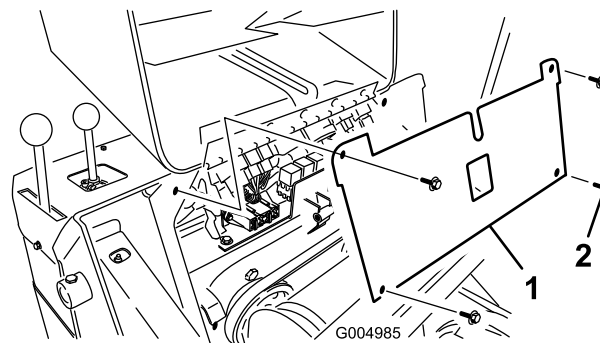

Figure 42
4. Remove the 4 screws securing the fuse panel and then pull the panel out and up to remove it (Figure 42).